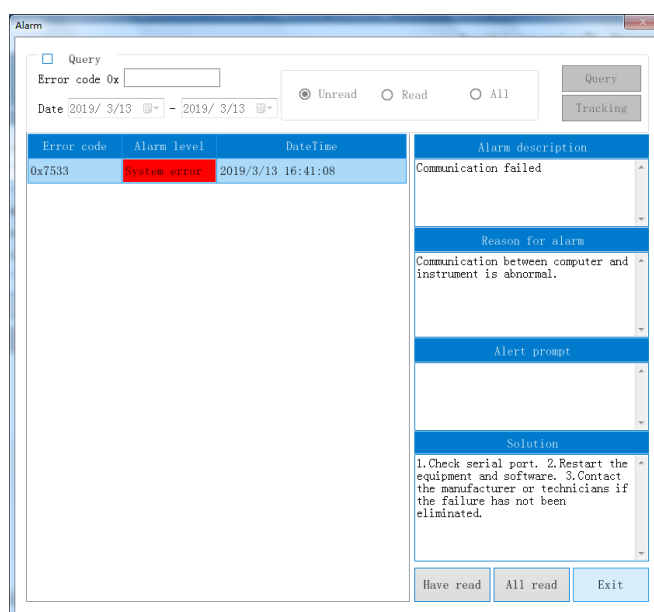

Figure.8.8.5 Alarm
- Click **Alarm** in the function controls column to pop up the alarm window, as shown in Figure 8.8.5:
- Select **Inquiry mode** in the alarm interface, as shown in Figure 8.8.5.